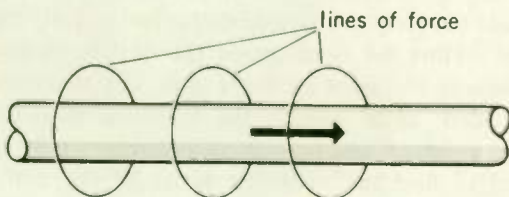

Fig. 8
5. The electron flow in the wire shown in Fig. 8 is in the direction of the arrow. By using arrows, show the direction of the lines of force.